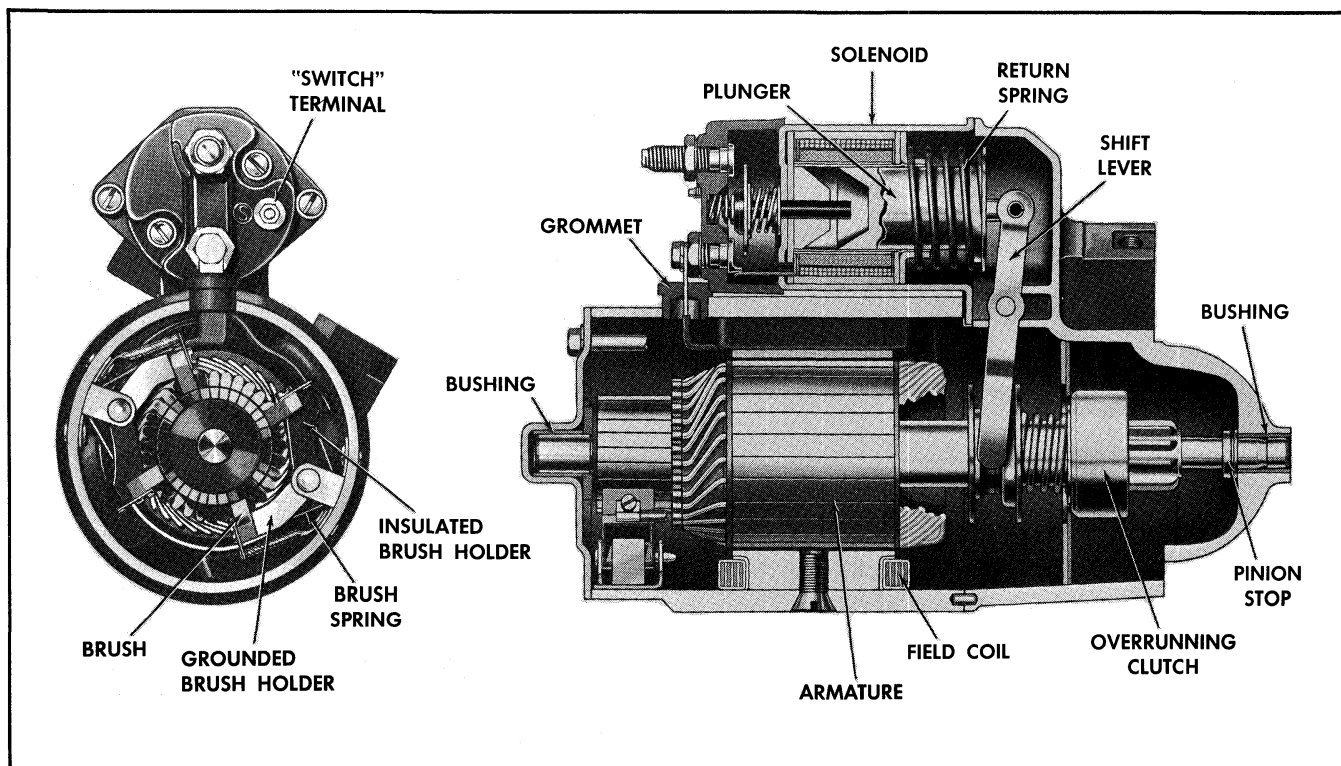

Fig. 11-9 Cross Section of Starting Motor
The enclosed shift lever starting motor (Fig. 11-9) is a 12-volt extruded frame type unit.
1. Disconnect the field strap (Fig. 11-9) from terminal on solenoid.